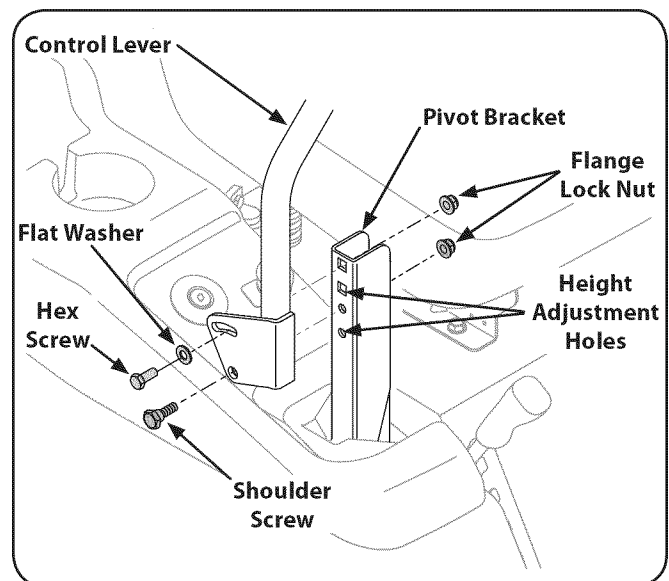

Figure 6-3
2. While supporting the control lever to keep it from falling, remove the flange lock nut and shoulder screw from the bottom of the control lever and pivot bracket. Refer to Fig. 6-3.
1. If not already loose, loosen the flange lock nut and rotate the control lever either forward or rearward to the desired position. See Fig. 6-3.